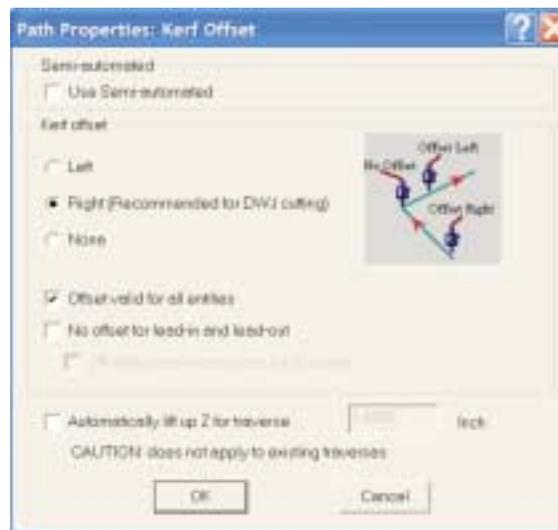

Figure 14. Path Properties: Kerf Offset dialog box
2. After you select the open entity, the Path Properties: Kerf Offset dialog box (see Figure 14) opens for you to set kerf offset options: